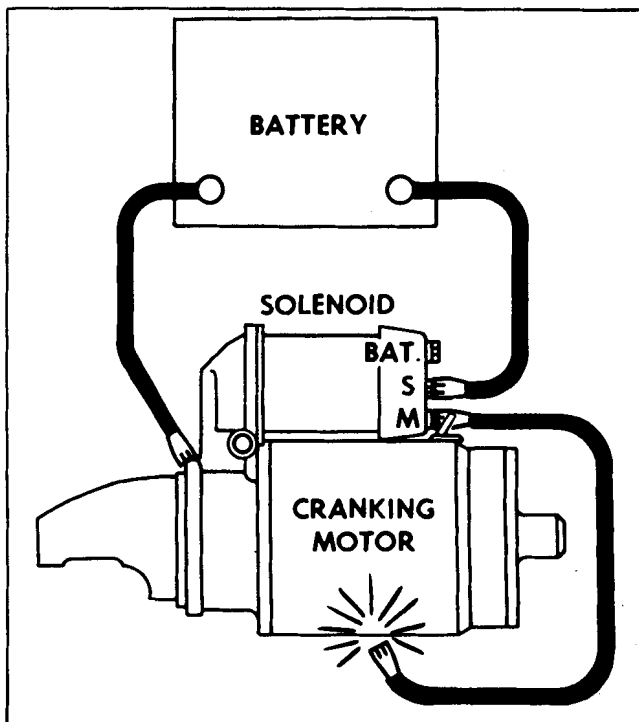

Fig. 6E-15 Circuit For Checking Pinion Clearance
5. Measure the distance between pinion and pinion stop (Fig. 6E-16).